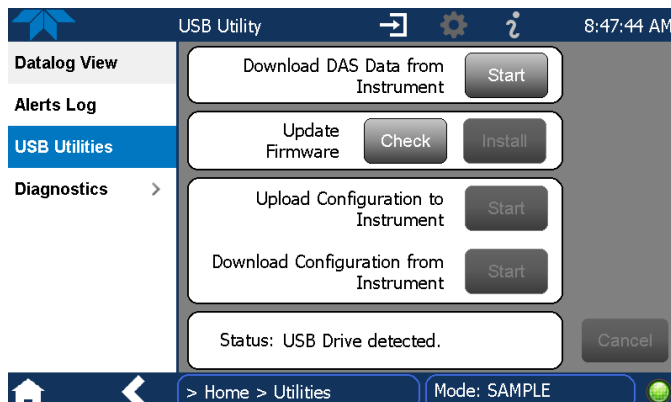

Figure 2-42. DAS Data Download
9. Insert a flash drive into a front panel USB port and wait for the Status field to indicate that the drive has been detected and available buttons are enabled (Figure 2-42).